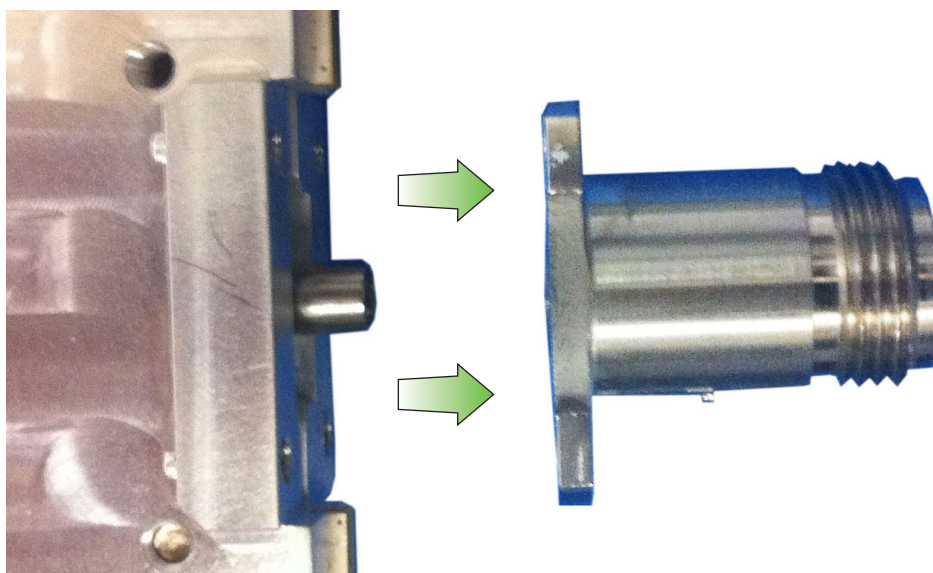

Figure 5-8. Remove N Connector from SPA or MB
6. Disconnect the N connector from the SPA or MB by gently pulling the N connector away from the SPA or MB (Figure 5-8).